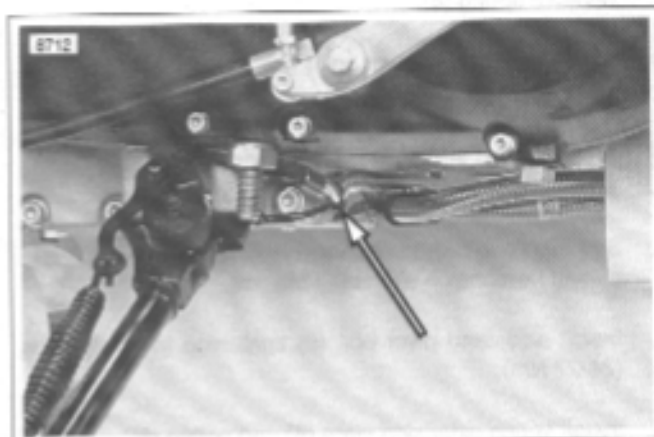

Figure 2-118. Sidestand Switch with Cable Strap
1. See Figure 2-118. Cut cable strap securing harness.
3. See Figure 2-118. Install cable strap securing harness.